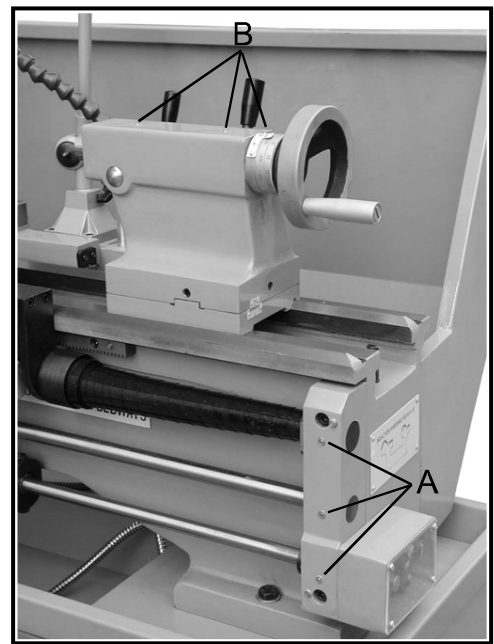

Fig. 8
10. **Leadscrew & Feed Rod** – Lubricate three ball oilers on leadscrew feed rod bracket (located at the right end of the lead and feed rod – A, Fig.8) with 20W machine oil once daily.
11. **Tailstock** – Lubricate three oil ports (B, Fig. 8) with 20W Machine oil once daily.